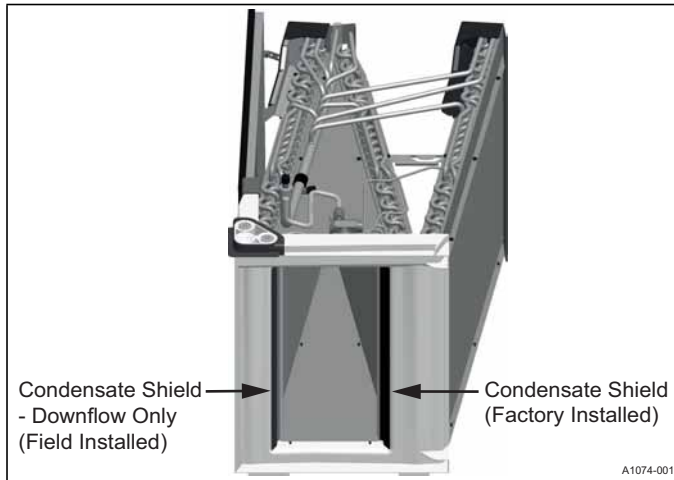
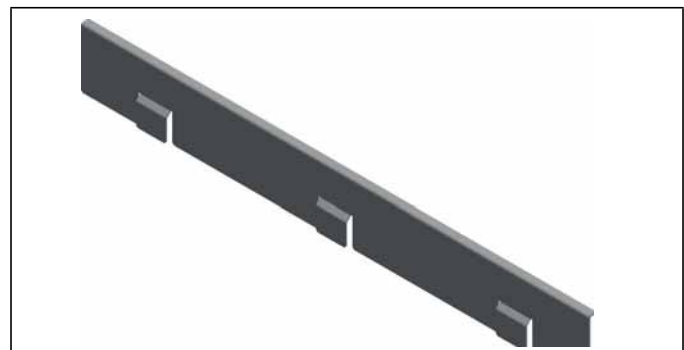

FIGURE 10: Installation of Downflow Condensate Diverter Shields
FIGURE 13: Condensate Shield
1. Attach the additional Downflow Condensate Shield (provided in the loose parts kit with this unit, and shown in Figure 13) to the primary drain pan underneath the coil slab by inserting the shield shown in Figure 10. Make sure that the shield is seated fully onto the primary drain pan.
3. When correctly installed, it should mirror the appearance of the factory installed Condensate Diverter Shield on the opposite side of the primary drain pan opening. See Figure 10.
2. Locate the downflow condensate shield (as shown in Figure 13) and foam gasket strip shipped in the loose parts kit included with the coil.
3. Install the condensate shield to the primary drain pan (as shown in Figure 10). There should be an identical condensate shield that was factory installed on the opposite side of the primary drain pan.